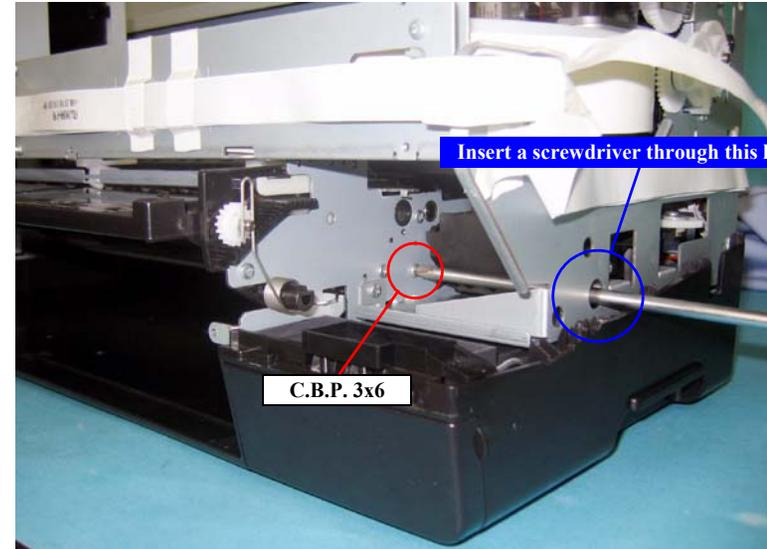

Figure 4-94. Removing the screw from the INK WASTE BOX
2. Remove the screw that secures the INK WASTE BOX. See Figure 4-94.
When removing/installing the screw that secures the INK WASTE BOX, insert a screwdriver (with a 140 mm or longer shaft is recommended) through the hole on the FRAME ASSY., SUB, RIGHT as shown in Figure 4-94.